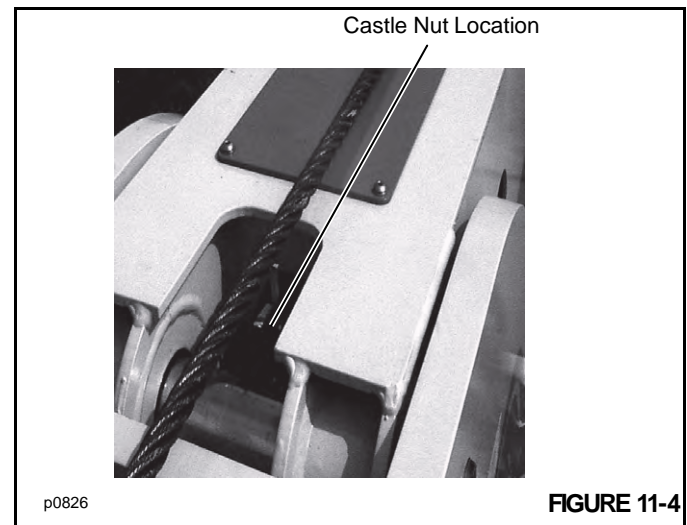

FIGURE 11-5
3. If the chain is too loose DO NOT use the castle nut (Figure 11-4) to remove the slack. Instead, extend the booms until the extend rod is visible through the inspection opening. Scribe a line on the 3rd section to tell when the section moves. Attach a pipe wrench to the extend rod (Figure 11-5) and turn the rod into the chain